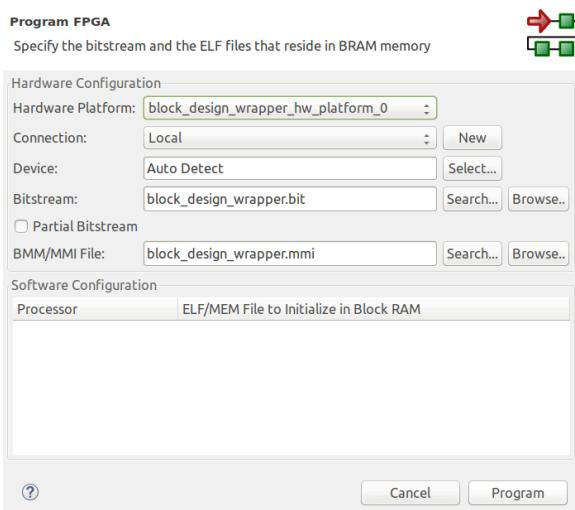

Figure 9. Load the FPGA bitstream on Xilinx SDK
- b. Load the Bitstream by selecting “Xilinx>Program FPGA” in SDK as described in Figure 9